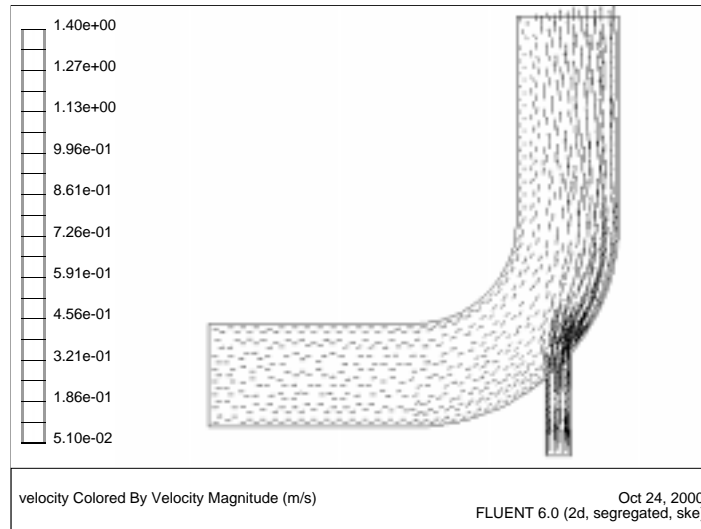

Figure 1.6: Resized Velocity Vectors
3. Display velocity vectors (Figure 1.6).